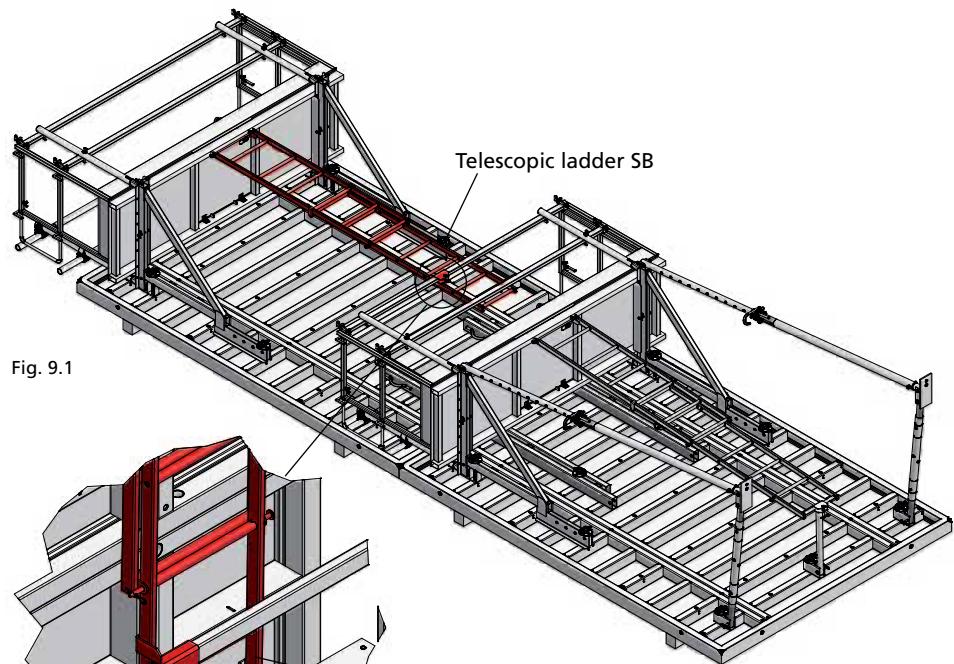

Fig. 9.1
3. Add the SecuritBasic equipment for the 2nd level. The steps are the same as before except for the attachment of the telescopic ladder if one is mounted. Its low end at the 1st and other platforms is attached to the rear railing frame – not to the panel. Add the ladder fixture railing SB with its integrated bolt to the rear railing frame and attach the ladder to the fixture (Fig. 9.1 and 9.2 Detail).